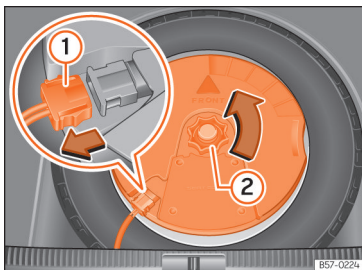

Fig. 236 In the boot: remove the subwoofer.
- Disconnect the subwoofer's speaker cable >>> **Fig. 236 ①**.
- Turn the securing wheel anti-clockwise >>> **Fig. 236 ②**.